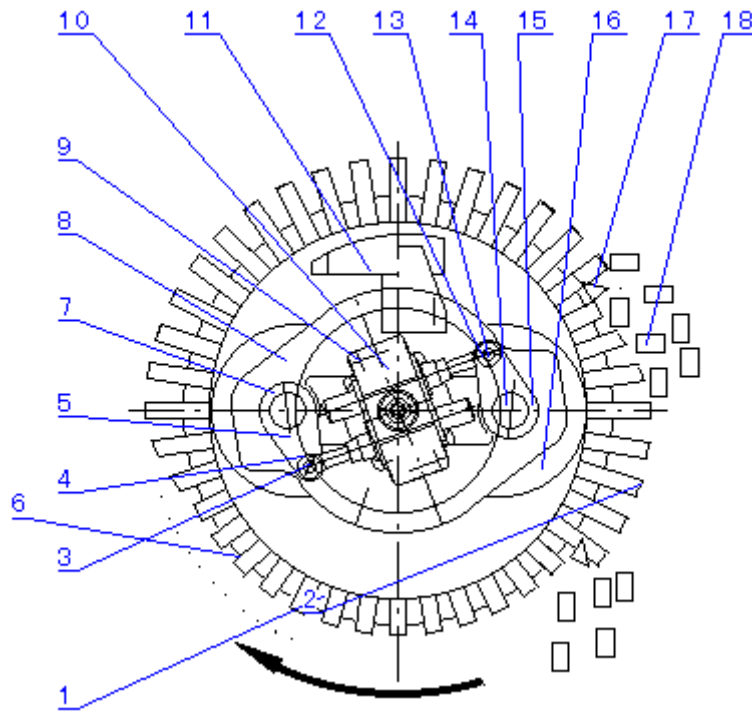

Figure 7 PELLET CHAMBER WORKING PRINCIPLE
4.2.1 Adjustment of die-roller clearance (see Figure 7)